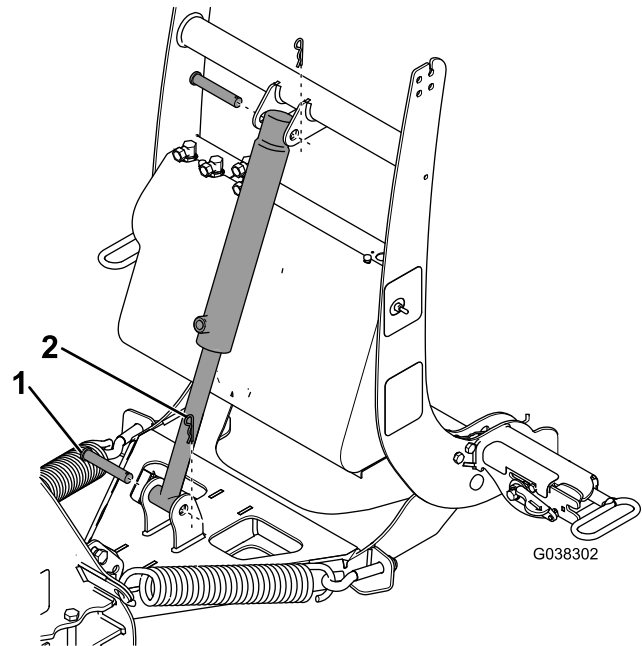

Figure 8
- Secure the rod end of the lift cylinder to the push-frame assembly using a clevis pin (5/8 inch) and hairpin catter (Figure 8).
- Secure the free end of the lift cylinder to the coupler tower using a clevis pin and hairpin catter (Figure 8).